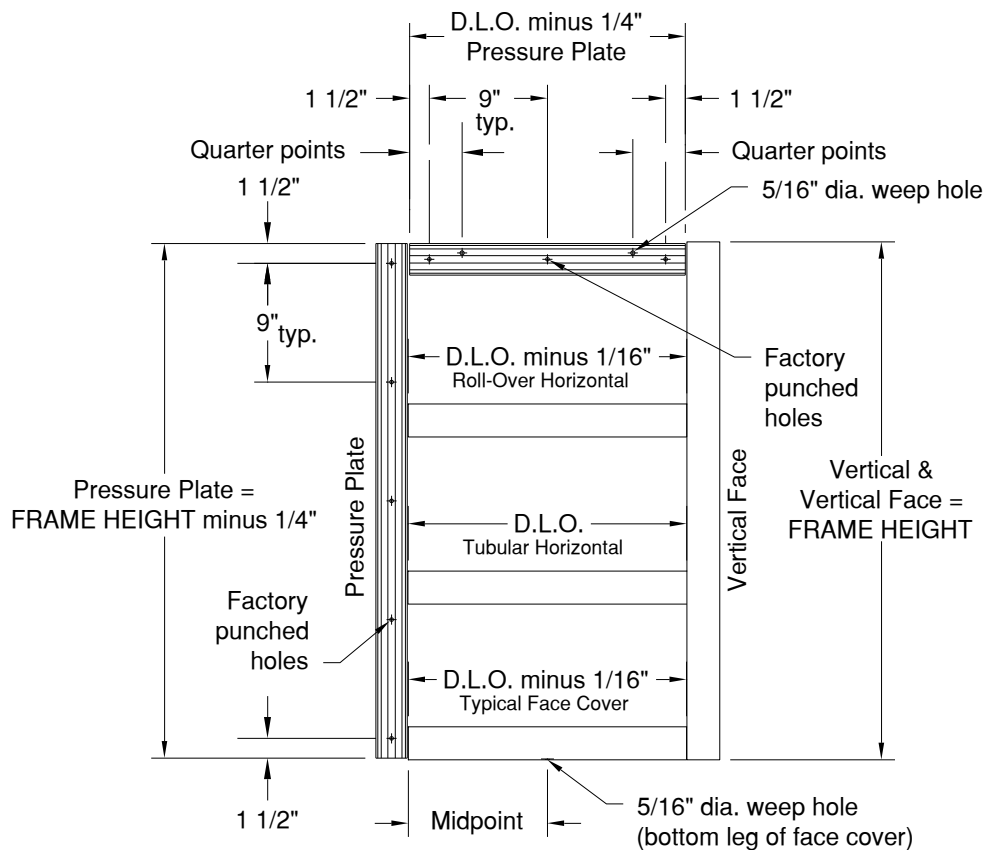

Figure 4: Fabrication Guide
- 6.2 Drill (1) 5/16" diameter weep hole at the bottom of each horizontal face cover at D.L.O. centerline. See Figure 4.